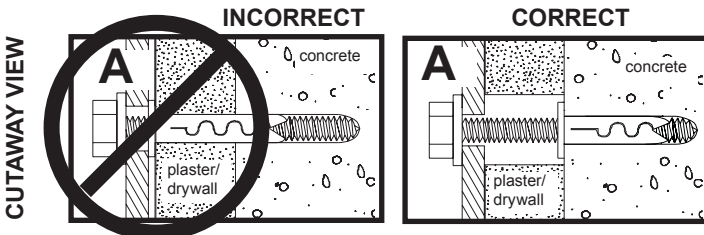

fig. 1.3
- 1** Place swivel assembly (A) on ceiling as a template with hanger bracket facing in same direction the projector will point. Mark the center of the two mounting holes and drill two 1/4" (6 mm) dia. holes to a minimum depth of 2.5" (64 mm). Attach swivel assembly using two concrete anchors (E) and two #14 x 2.5" wood screws (D) as shown in Figure 1.3 and 1.4. Tighten wood screws until ceiling bracket is firmly attached.